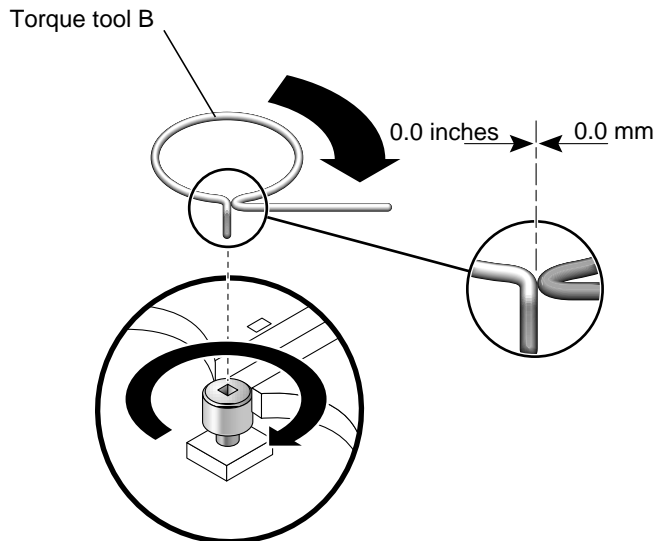

FIGURE 13 Adjusting Torque Tool B Until the Gap is 0.0 Inches (0.0 mm.)
7. Repeat Step 5 and Step 6 until the gap for torque tool B is 0.0 inches (0.0 mm.) (see FIGURE 13)